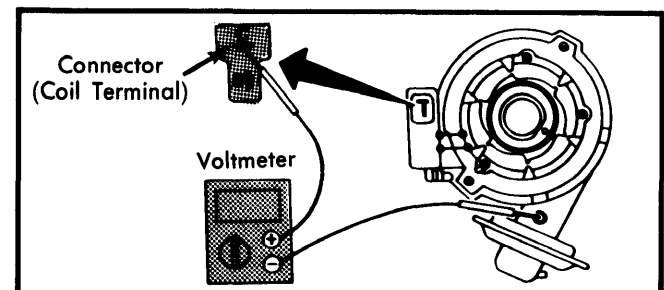

Fig. 9 Voltmeter Hookup for Ignition Primary Circuit Check
1) Connect voltmeter positive lead to "C" terminal (blue wire) of IC ignition unit connector. See Fig. 9. Attach negative lead to side of distributor. Turn ignition switch "ON".